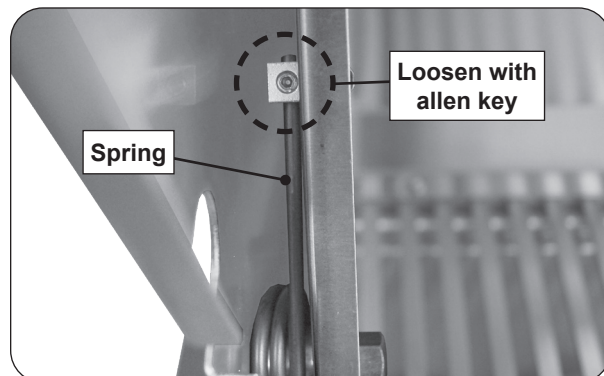

Fig. 41-1 Loosen screw (if applicable)
2. Locate the spring on the left side of the oven lid. Using an Allen wrench, loosen the screw as shown in Fig. 41-1.